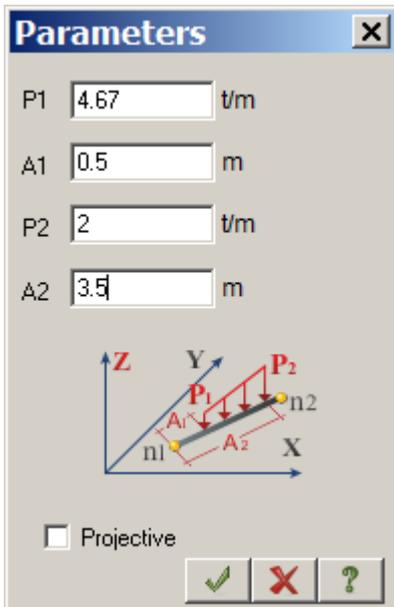

Figure 1.15 Load parameters dialog box (trapezoidal load)
- ⇒ In the **Load parameters** dialog box, specify the following data: $P1 = 4.67$ t/m, $A1 = 0.5$ m, $P2 = 2.0$ t/m, $A2 = 3.5$ m (see Fig.1.15).